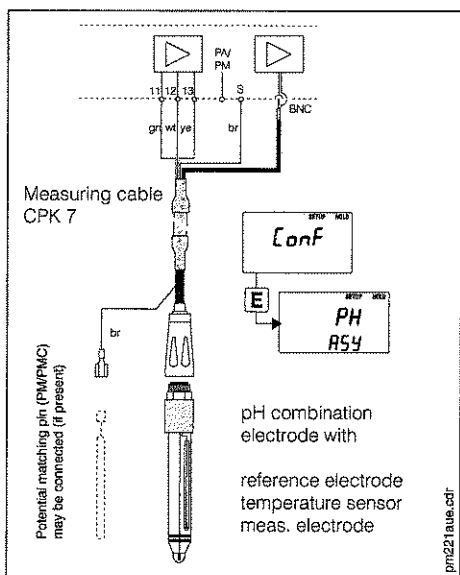

Fig. 4.7 Asymmetrical high-impedance pH electrode connection
- no potential matching connector present – asymmetrical connection (see figure 4.7)